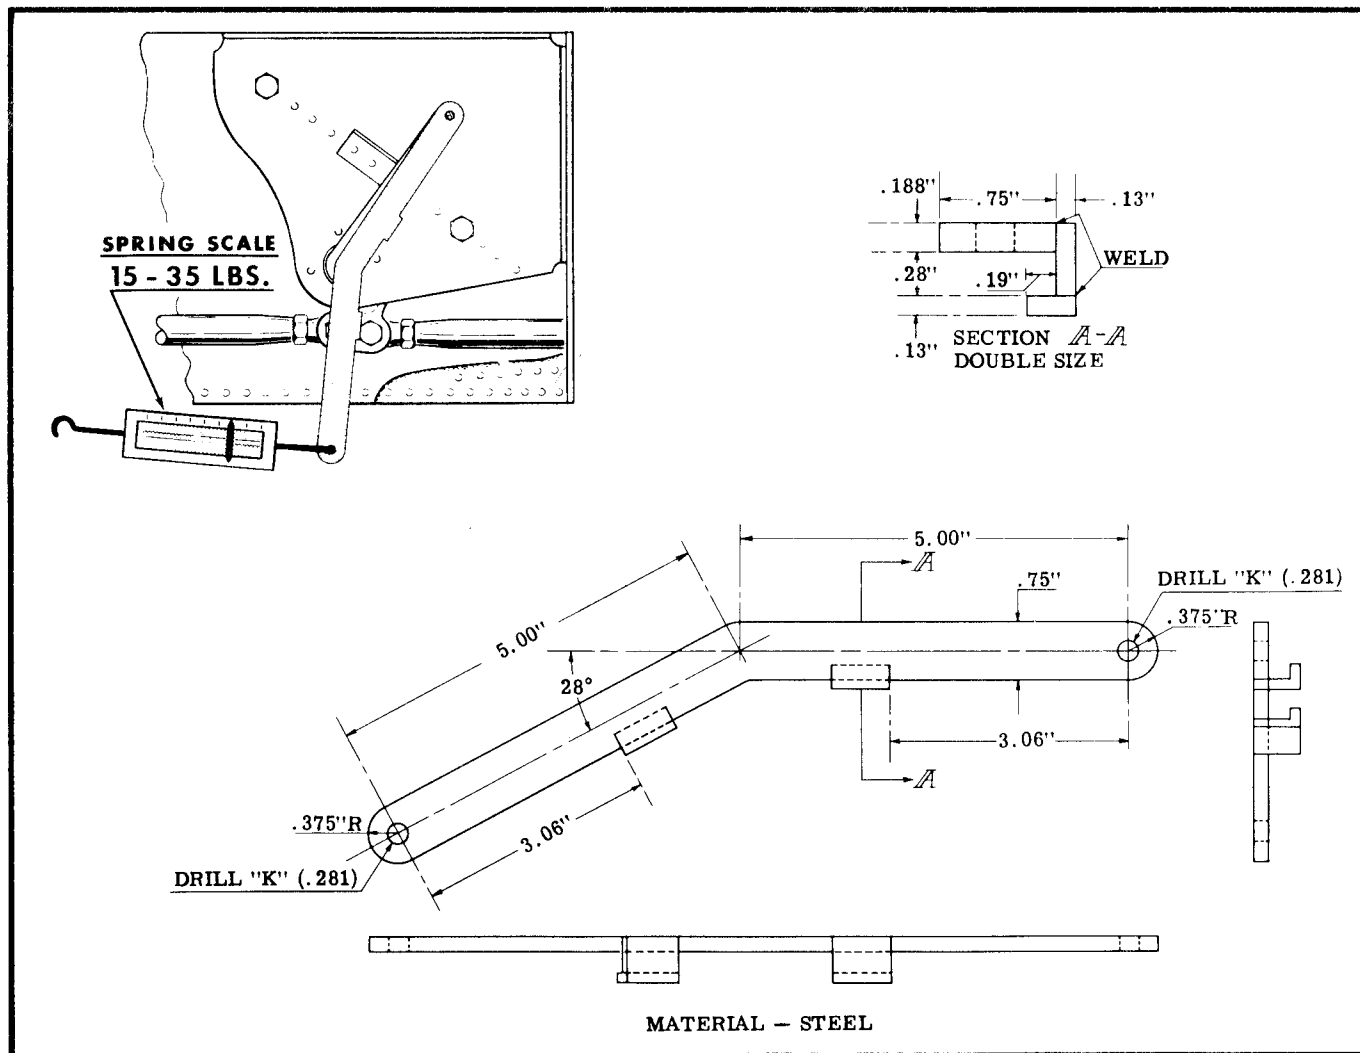

Figure 2-57. Fabrication and Use of Tool for Measuring Door Actuator Arm Tension
11. Adjust the length of both main drive tubes (9) as short as possible and connect to idler bellcranks (10).
12. Operate actuator to the UP position and check the pull required to move door actuator arms (6) from stops (5) as illustrated in figure 2-57.
The pull required to move door actuator arm from the stop must be measured at a right angle to the arm. The tool illustrated in figure 2-57 can be made to facilitate this measurement.